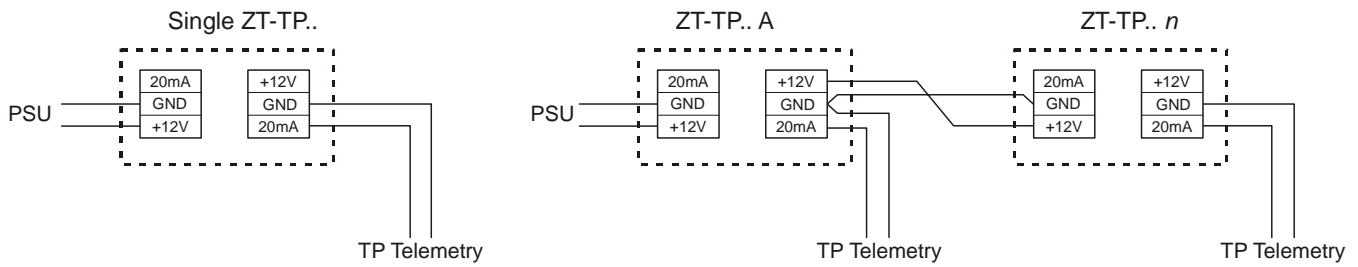

Fig. 2
Two sets of spring loaded contacts are provided on the ZT-TP which allow you to make the power and twisted-pair telemetry connections. Each pair are commoned together i.e. GND connects to GND, etc. This enables the connections to be made more easily. In addition, the power supply connections may be commoned together when more than one ZT-TP is being used (see figure 2).
- Connect the +12V DC and 20mA twisted pair to the 3 way connectors on the side of the ZT-TP as shown in Figure 2.